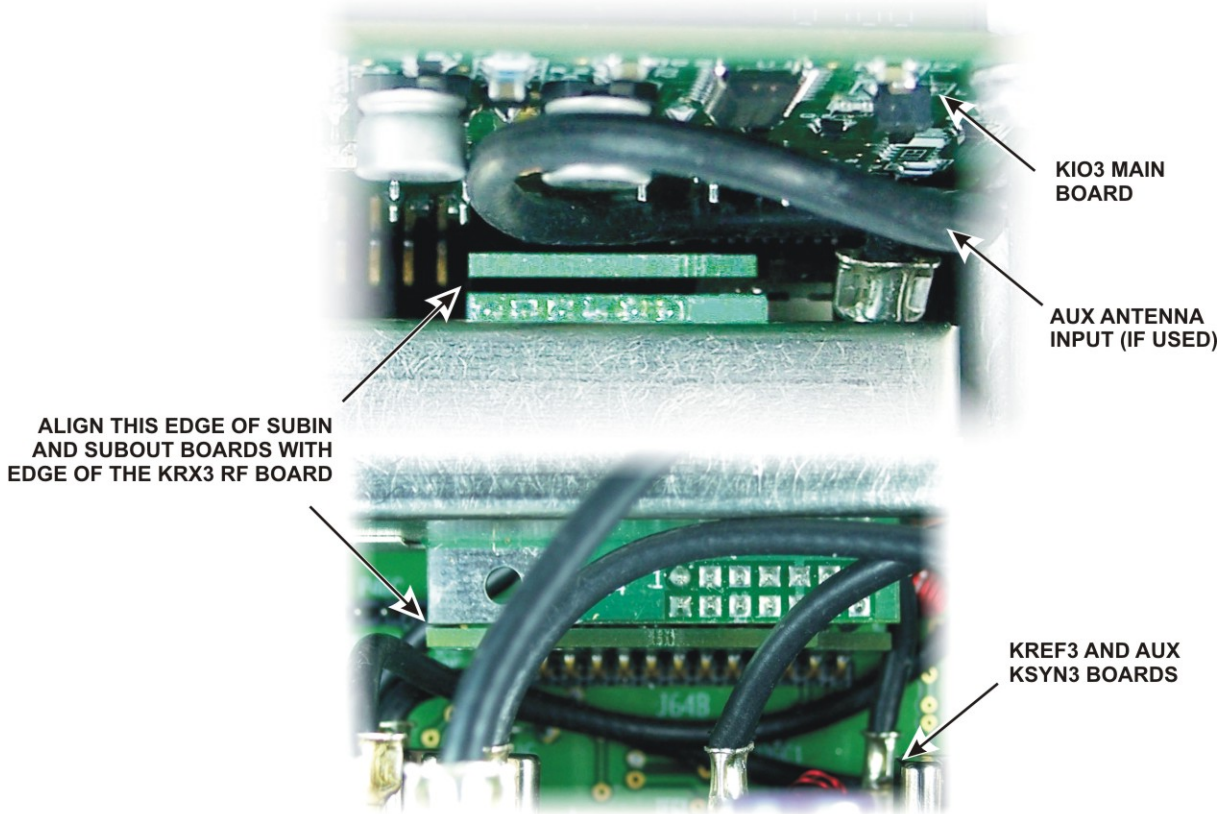

Figure 49. Aligning the SUBIN and SUBOUT Connectors.
□ With all the TMP cables attached, lower the KRX3A module into the K3 so that the connectors on the KRX3A mate with the connectors on the SUBIN and SUBOUT interface boards (see Figure 49). The knurled nuts are provided as handles to make holding the assembly easier. You may need to adjust the cables near the SUBOUT board so they don't interfere with mating the connectors. If the connection between J92 and the KAT3 is used, form the excess cable into a loop in front of the KIO3 board.